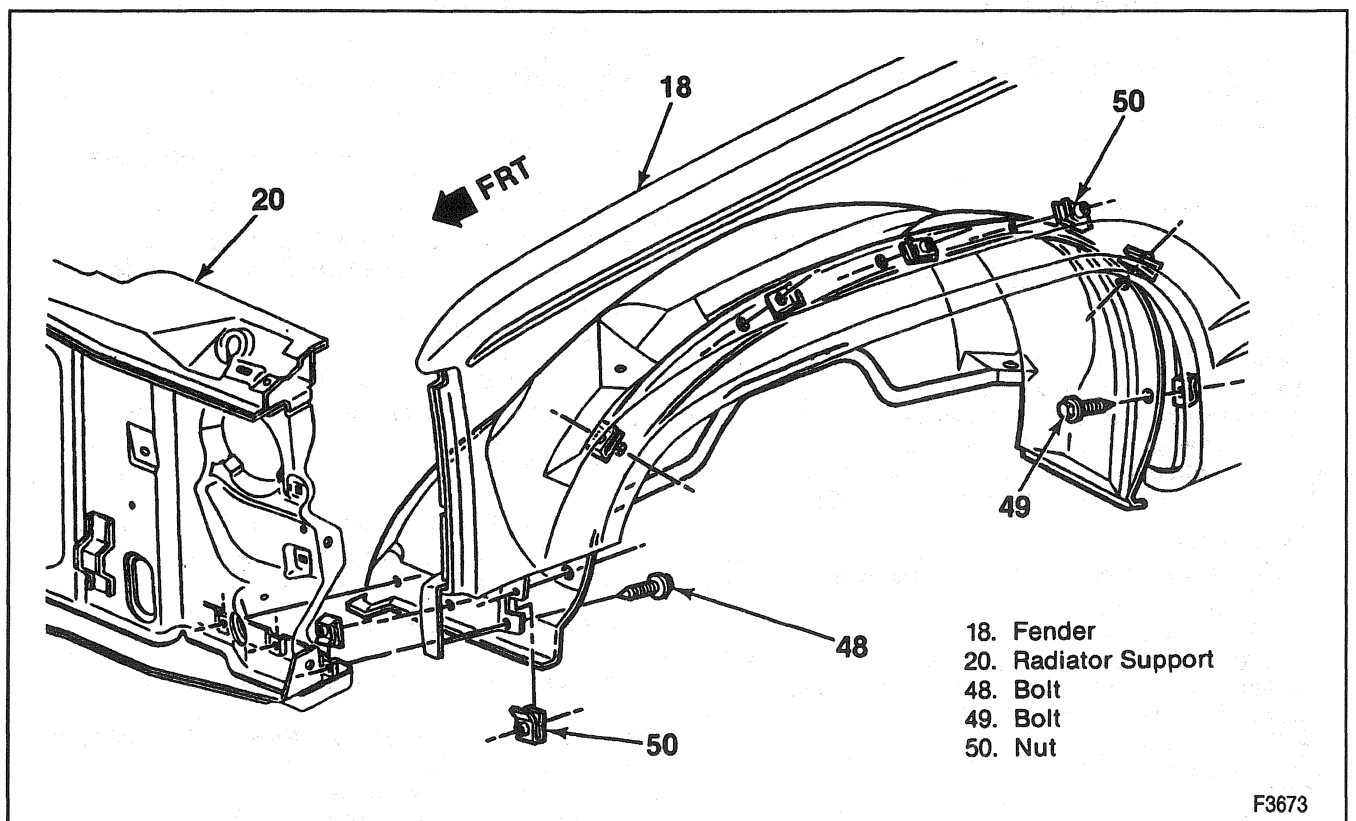

Figure 17—Wheelhouse Panel to Radiator Support Attachment
Remove or Disconnect (Figures 17 and 18)
8. Two bolts holding the wheelhouse to the cowl mounting brackets (Figure 17).
→ Install or Connect (Figures 17 and 18)
↔ Remove or Disconnect (Figures 17 and 18)
→→ Install or Connect (Figures 17 and 18)